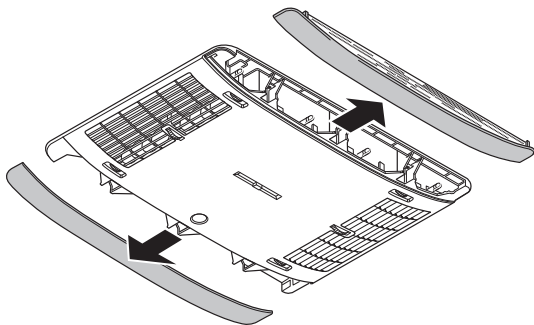

Fig. 38
- ▶ Remove both panels on the side of the air distributor (Fig. 38).